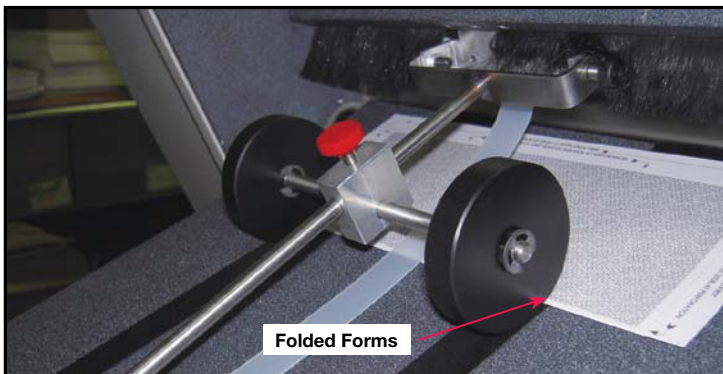

Figure 12: Exit Guide Wheel Adjustment
3. Move the *Exit Guide Wheels* so they just touch the front edge of the form (see *Figure 12*).